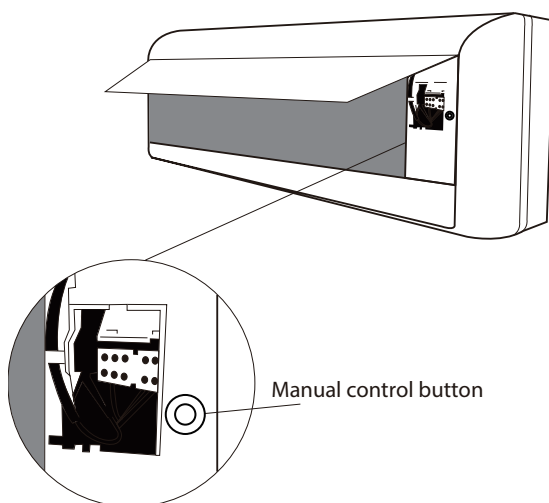

Fig. 8.1
2. The **MANUAL CONTROL** button is located on the right-hand side of the unit. Press it 2 times to select the COOL function. See Fig 8.1 .